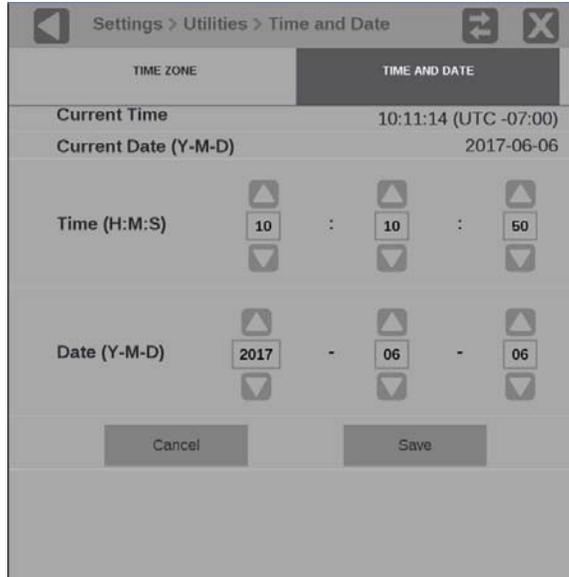

Figure 71: Time and Date submenu
6. In the TIME AND DATE tab, adjust the time and date using the up and down arrows to adjust each parameter as needed. The time setting uses a 24-hour clock, so no AM/PM setting is required. (See Figure 71.)